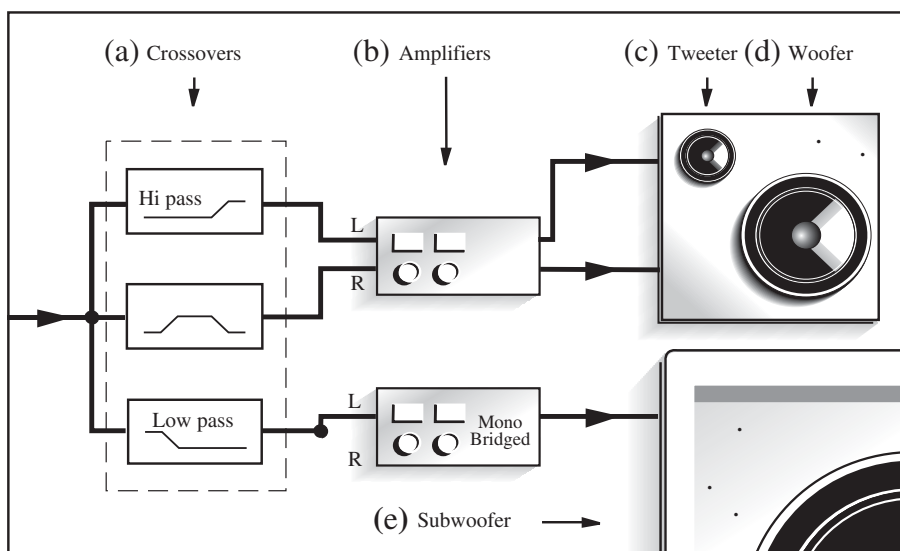

FIGURE 8.1
- **What is a studio monitor?** A studio monitor is, at least in most studios, more than one speaker. Because one speaker cannot reproduce the complete audible frequency range, different speakers cover different ranges. Often larger recording studios will have large mounted speaker arrays aimed at the engineer, as well as various nearfield monitors. Figure 8.1 shows a common three-speaker studio monitor with two amplifiers. This includes: